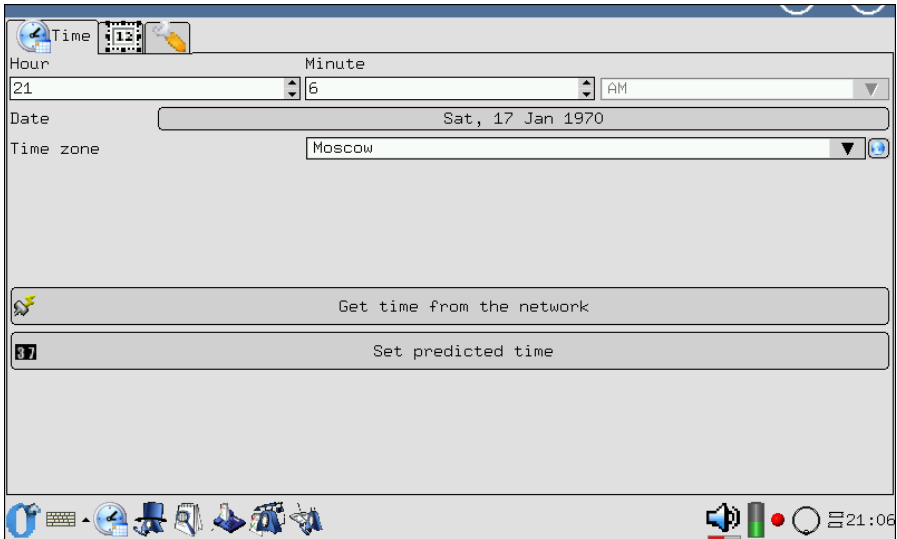

Figure 14.7. System time setup
- current time (by tapping on the icon there appears the time setup menu (see Fig. 14.7)).